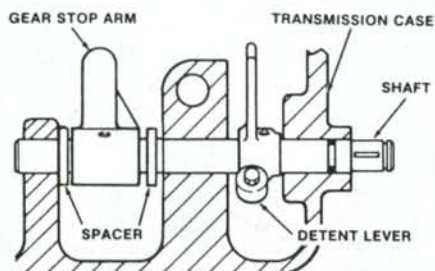

Fig. 197—Illustration showing installation of spacers on park lock shaft. Refer to text.
To reassemble, first clean old Loctite from threads of detent spring bolt (7—Fig. 195) and bolt hole. Assemble washers, spacer and detent spring on bolt making sure straight leg of spring is toward bolt head. Apply Loctite 271 or equivalent to threads of detent spring bolt and install into transmission, tightening bolt to 25-35 ft.-lbs. (34-47 N·m) torque. Insert park lock shaft (17) into bore of transmission case, with keyway toward rear of tractor. Install detent lever (15) on shaft with notch toward front of tractor placing leg of detent spring over detent lever. Install right side spacer (5), gear stop arm (3) and left side spacer (1) onto shaft (17). See Fig. 197. Engage stop arm with park lock gear and install set screw (6—Fig. 195), without Loctite, into stop arm, making sure point of screw enters hole in shaft.